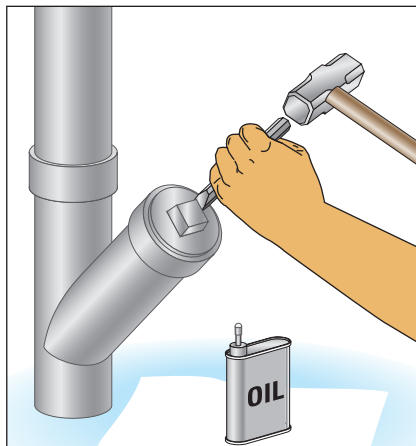

Figure 5-3:
2. **With your goggles on, place the point of a chisel on the outer edge of the rodding eye cover and use a hammer to tap the chisel in a counter-clockwise direction (see Figure 5-3).**